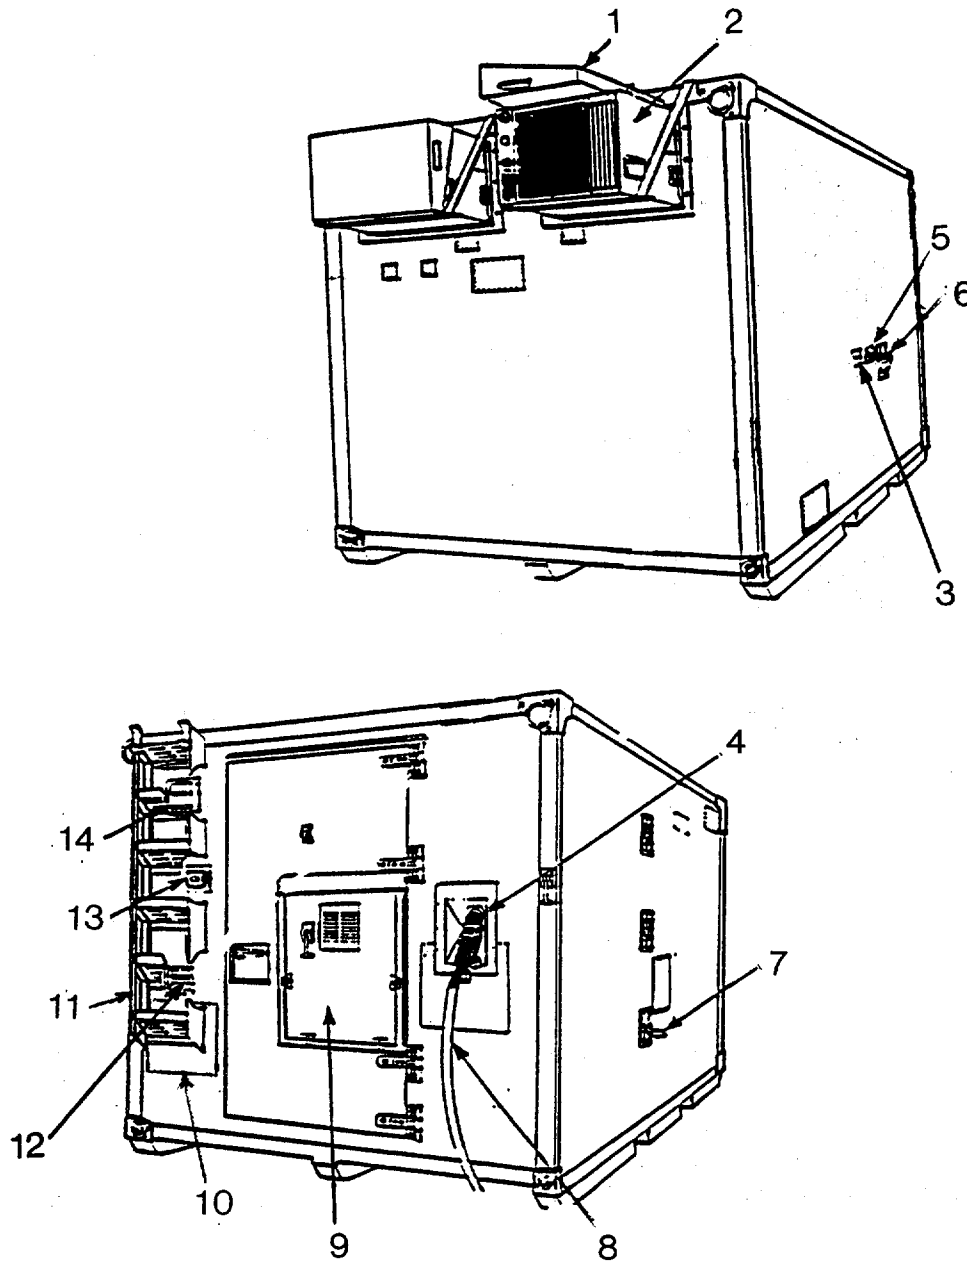

Figure 1-2. Location and Description of Major Components, Editorial Shelter, Exterior
- (1) Phototypesetter
- (2) Camera
- (3) Vertical Vacuum frame
- (4) Light tables
- (5) Storage Cabinets
- (6) Air conditioner units
- (7) Level indicator gages
**1-11. LOCATION AND DESCRIPTION OF MAJOR COMPONENTS.** Left and right orientation is determined by facing the shelter personnel door. Paragraph numbers below correspond to callouts in Figure 1-2 and 1-3. All equipment is located in its operational position.
- a. Editorial Shelter Exterior. Refer to Figure 1-2 for location of major components.
- (1) Condenser Cover (1). Protects the air conditioner when not in use and during transit of the shelter.
- (2) Air Conditioner (2). Provides temperature control for the shelter.
- (3) Roadside Level Indicator (3). Roadside bubble gage-type level used to level shelter.
- (4) Main Power Receptacle (4). Permits supply of power to interior main power service box when power cable is connected.
- (5) Sink Drain (5). Provides a means of draining darkroom sink.
- (6) Water Tank Filler (6). Provides an outside means of filling water tank.
- (7) Folding Steps (7). Allows access to roof of shelter.
- (8) Main Power Cable (8). Used to supply shelter with power from power source.